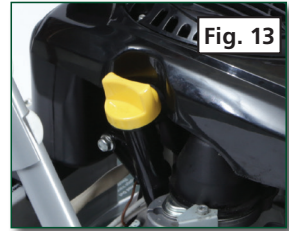

Fig. 13
1. Add oil through the dipstick tube by unscrewing and removing the yellow oil cap. (Figure 13) Use the funnel provided in your owner's kit.